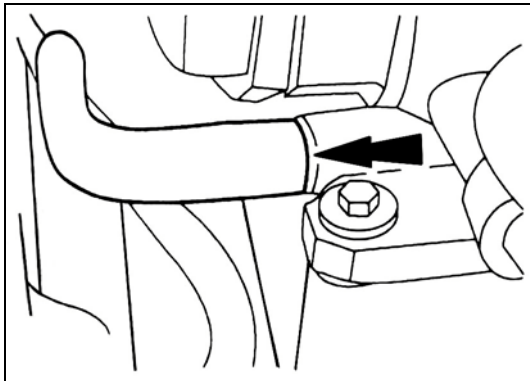

**Figure 7**
10. Disconnect the EGR vacuum regulator solenoid vacuum supply (Figure 7).